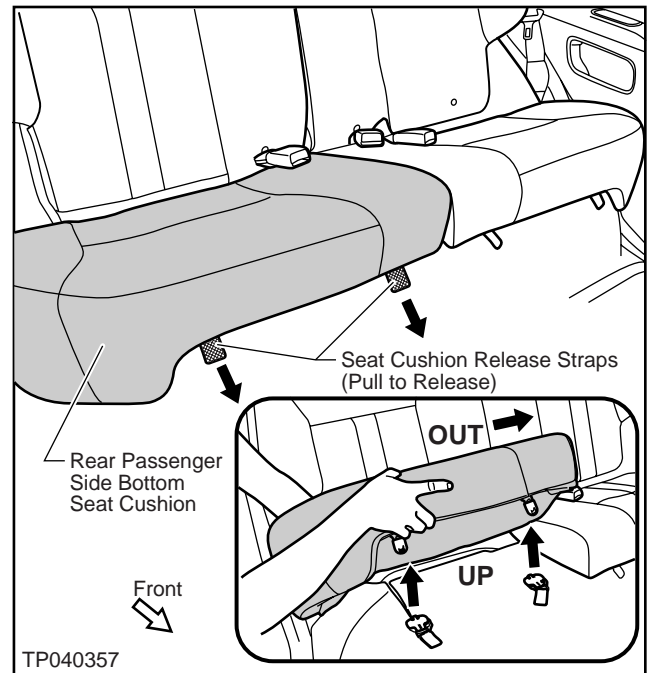

Figure 14
- a. Pull on the Seat Cushion Release Straps while lifting UP on the front edge of the Seat Cushion (see Figure 14).